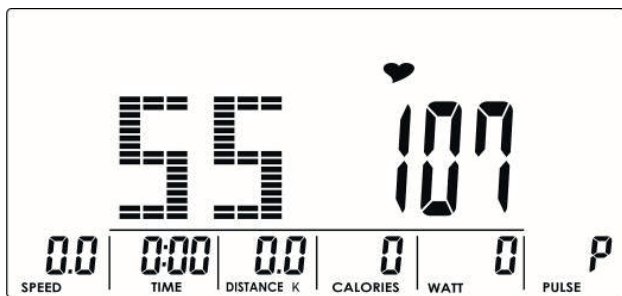

Figure 11
2. Choose your desired heart rate programme (55%, 75%, 90% or TA) with the encoder and confirm your choice with the encoder (Fig. 11 - 14).